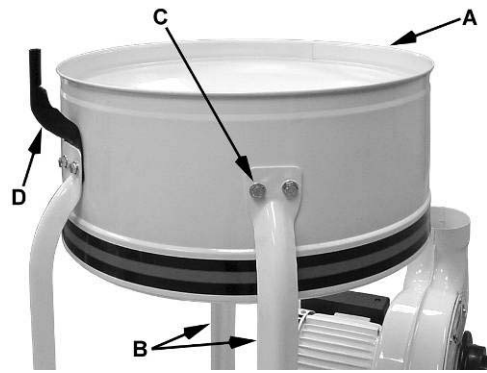
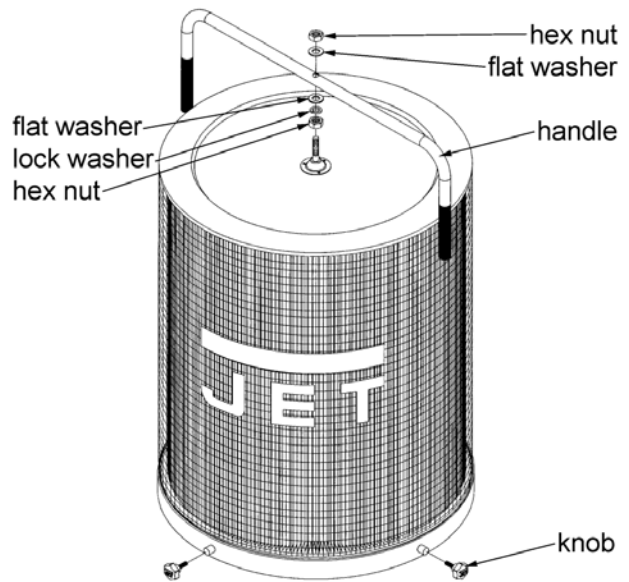

Figure 5
Figure 9
6. Install the *housing* (A, Fig. 5) to two *support legs* (B, Fig. 5) using four M8 x 16 hex cap bolts, eight M8 flat washers, and four M8 hex nuts (C, Fig. 5). *Be sure hose opening faces fan housing.*
Note: For filter bag models only – Before attaching third support bracket place the *hanger bracket* (D, Fig.5) between the support bracket and the housing. This action is not necessary for canister filter units.
1. Mount the handle onto the canister filter with two M10 hex nuts, two M10 flat washers, and a M10 lock washer (Figure 9).
2. Mount the canister filter on top of the *collector housing* (A, Fig. 5) and tighten the knobs on the *canister filter* (Figure 9).